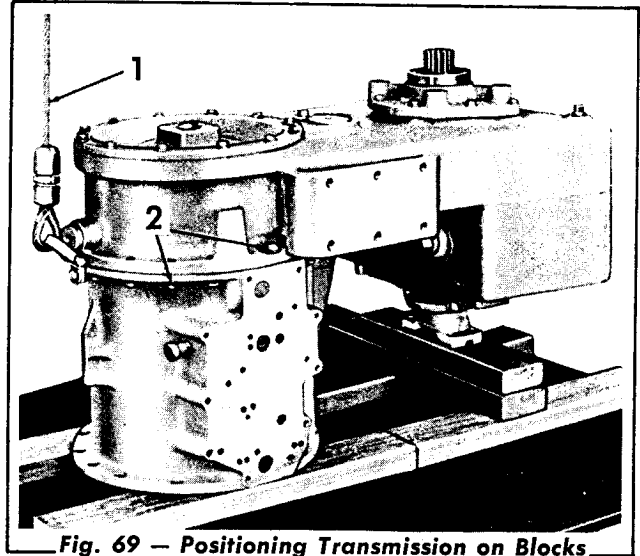

Fig. 69 — Positioning Transmission on Blocks
7. Attach a lifting sling (Fig. 69) to the front lifting hole in the transmission housing and position the transmission on the work table with the front end up. Block under the flange to level it. Remove the eighteen cap-screws and lockwashers.